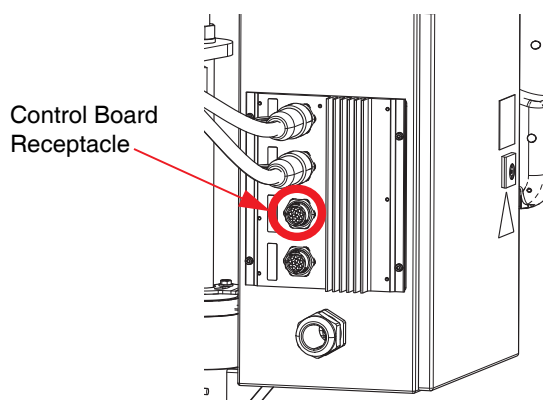

FIG. 14
4. Connect the hose electric connector onto the receptacle of the control board. See FIG. 14.